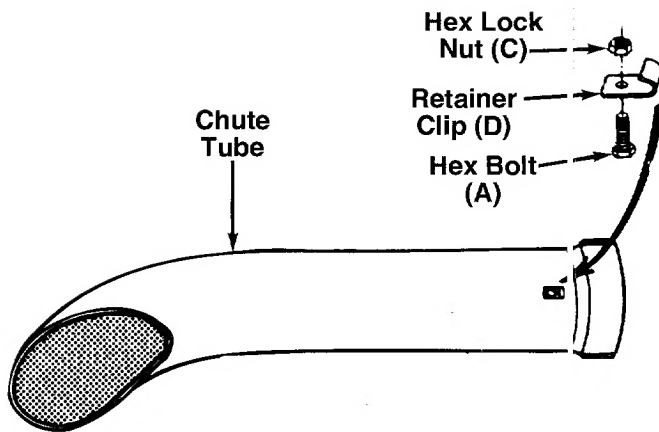

FIGURE 6.
1. Attach the retainer clips (D) to the bottom of the lower tube as shown in figure 6. Secure with hex bolts (A) and hex lock nuts (C).